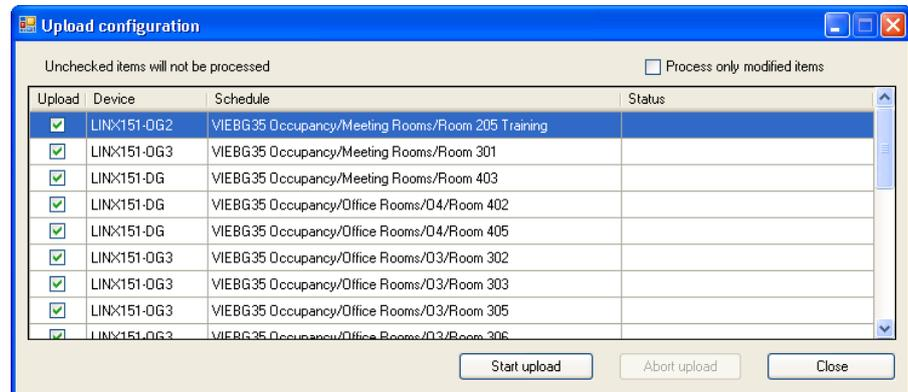

Figure 131: Master Schedule Upload
2. The upload dialog is shown in Figure 131. If the checkbox **Process only modified items** is selected, only the schedulers which have been detected as modified will be uploaded. This option is useful to speed up the process if you have a large number of